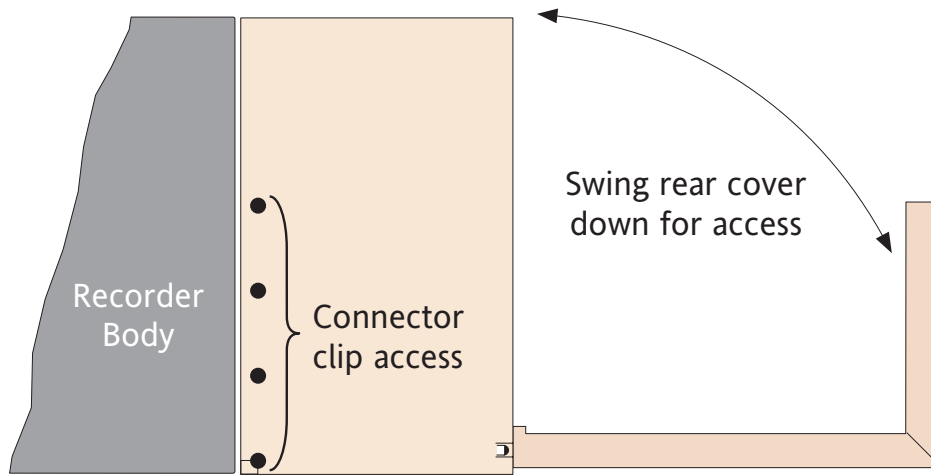
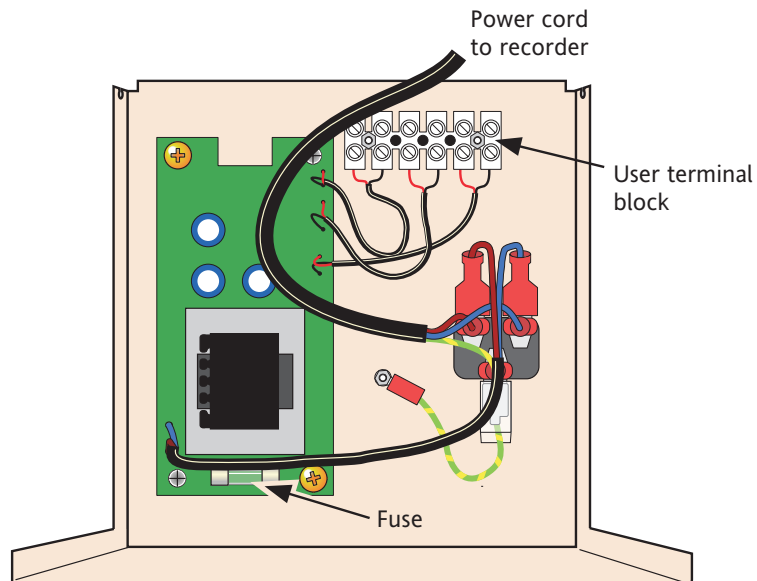
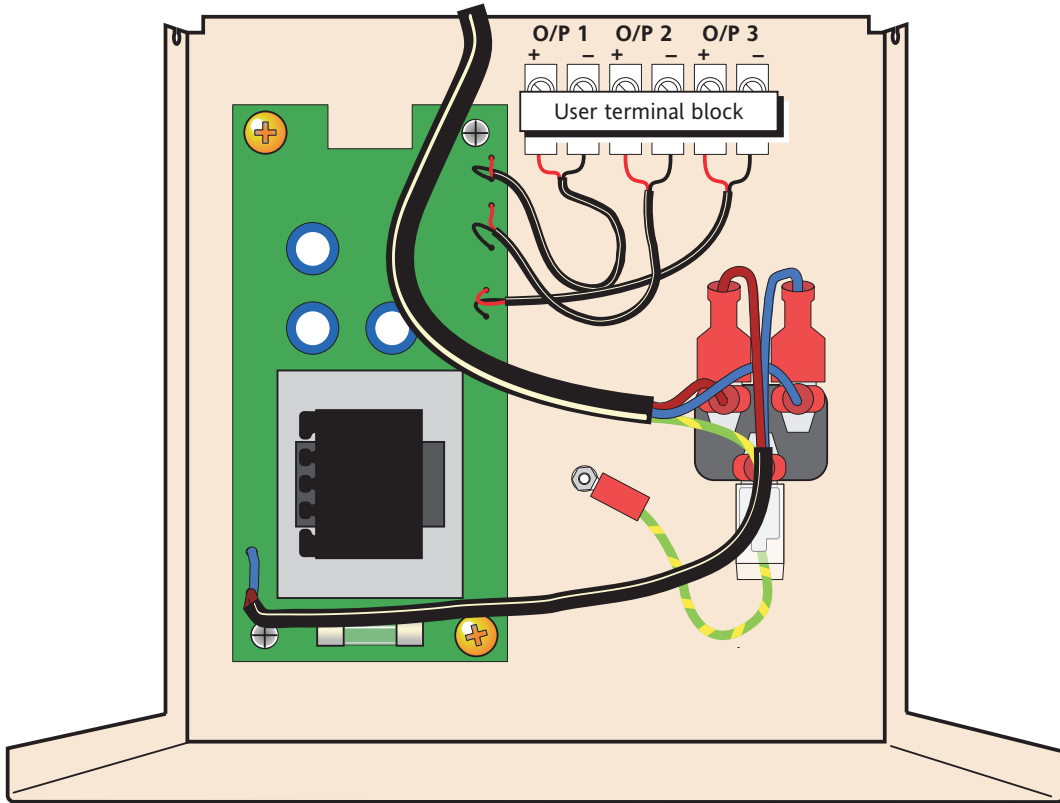
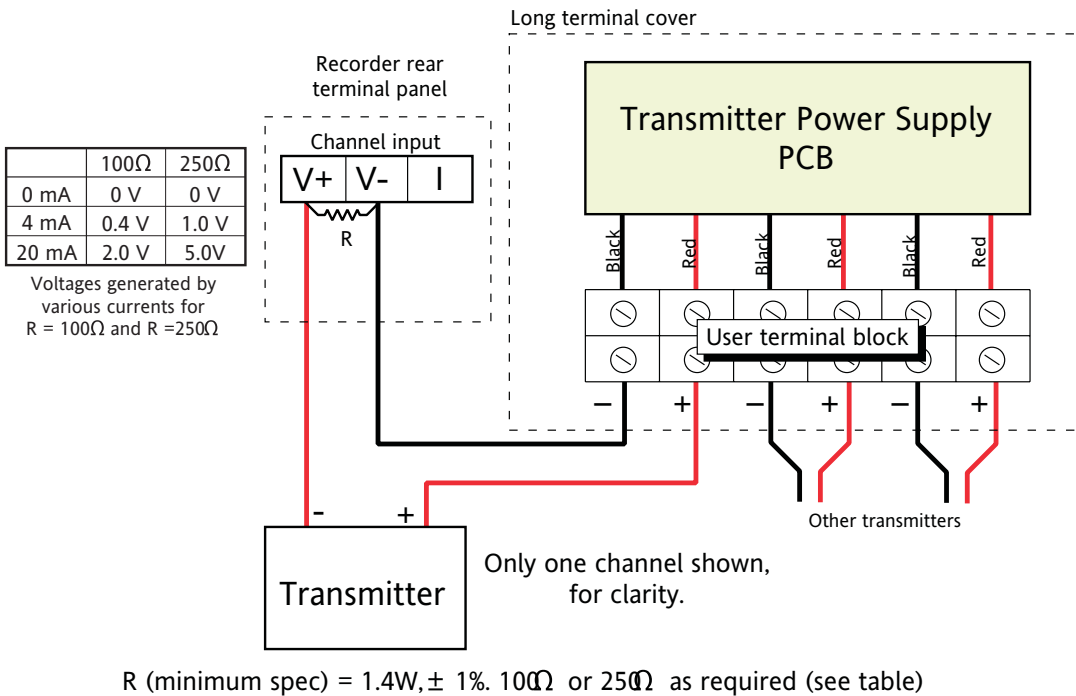

Figure 7.2.2b Opening the rear cover
Figure 7.2.2c Fuse and User terminal block locations
Figure 7.2.3a Terminal block wiring
Figure 7.2.3b Applications wiring
- 3 Open the cover (figure 7.2.2b) to reveal the circuit board, user connections etc. (figure 7.2.2c)
- 4 The fuse is located as shown in figure 7.2.2c. User wiring to the terminal block (figures 7.2.3a/b) can be carried out now, or the terminal cover can be removed for convenience, as described in steps 5 onwards below.
**Note:** Four apertures in each side of the terminal cover allow the user to actuate the clips which secure the i/o connectors to the rear panel of the recorder. This allows the i/o connectors to be removed if, for example, the recorder is to be removed from the panel for any reason. The positions of these apertures are shown in figure 7.2.2b (right-hand side shown; left-hand side similar).
Figure 7.2.3a shows the terminal block pinout, and figure 7.2.3b shows typical applications wiring.